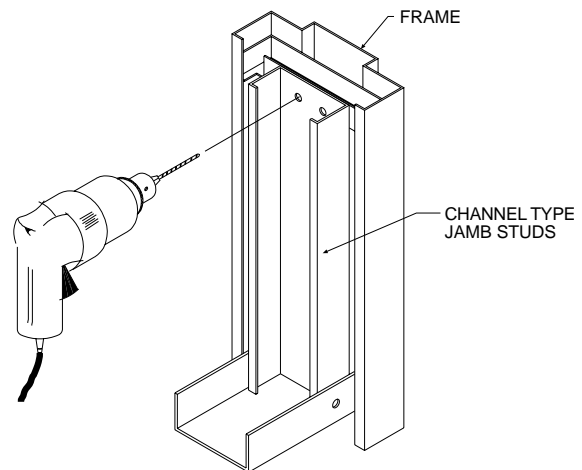

Figure 11 – Channel type steel stud
5. Position studs in frame throat and attach to anchors with screws or weld. If using screws, drill from the back side of the stud, through both the stud and anchor, then attach with (2) screws per anchor location (see figure 11).
Erect jamb studs and attach frame anchors to studs using screws or welding. If using screws, drill from the back side of the stud, through both the stud and anchor, then attach with (2) screws per anchor location (see figure 11).